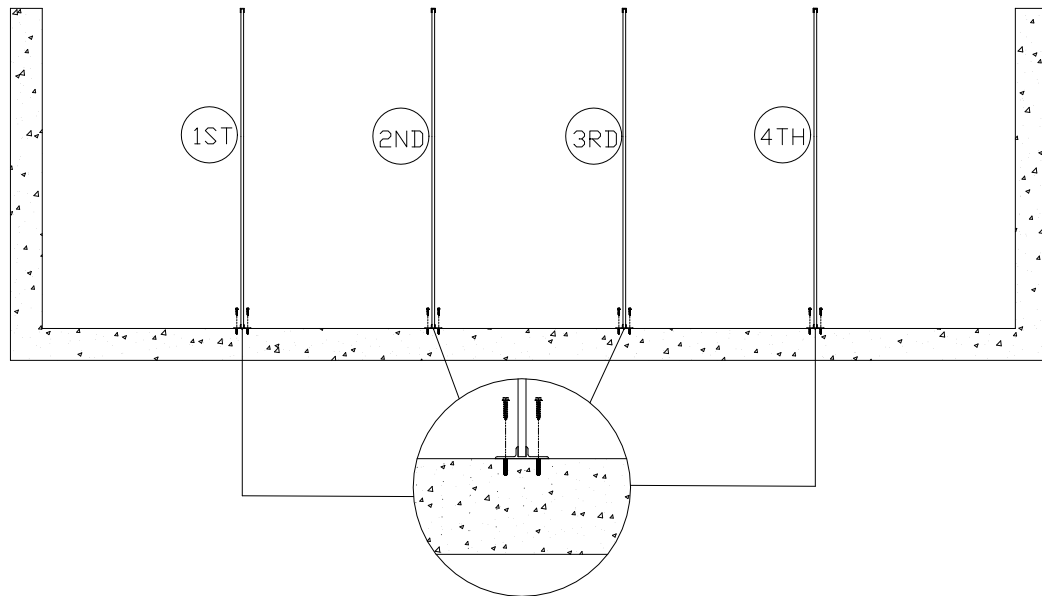

Figure 7
7. Starting from the point you selected in step C-1 place the first "outside division panel" on the corresponding "Sanislope T". See Figure 7 for the sequence in which to assemble the panels. Orient the first specified "division panel" against the wall as shown in the exploded view of Figure 7 so that it is centered under the mark applied in section C-4
4. Repeat steps D-1 through D-3 for all remaining division panels following the same sequence used to assemble the panels as shown in Figure 7. Continue the leveling process for all runs and or banks of runs.